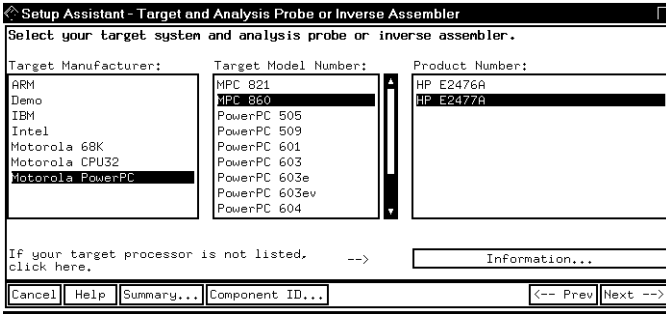

Figure 5. Setup Assistant gets you up and running quickly.
**Setup Assistant** is a guided menu system that helps you configure the logic analysis system for your target microprocessor or bus. Online information guides you through the setup. (See Figure 5)